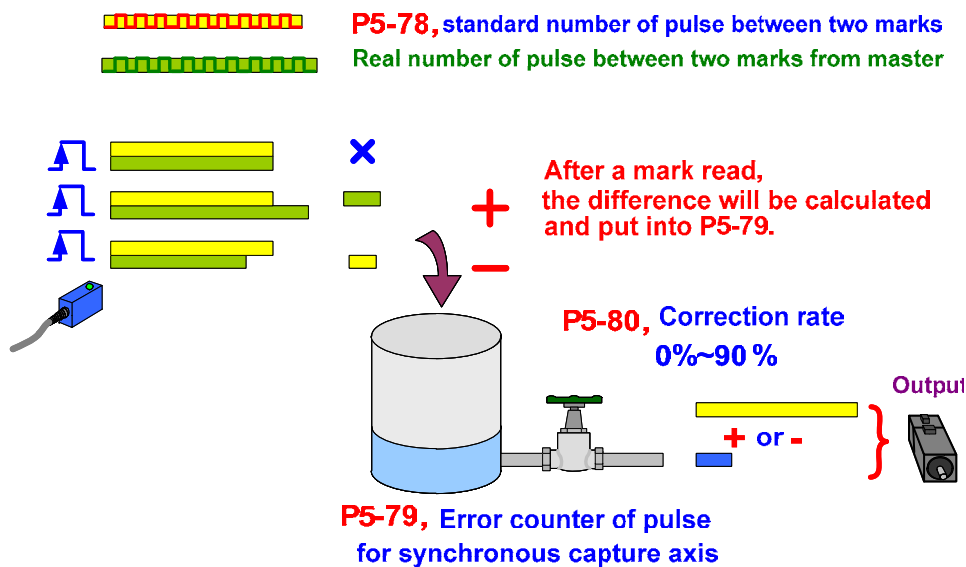

Figure 3.8.6 Operational Theorem of Synchronous Capture Axis
- The pulse number between two marks must be set in P5-78. The setting of P5-78 must be correct, or the system has no basis for comparison. Generally, P5-78 = P5-84. If P5-83 = 1, then the distance between two marks is the distance the cam curve travels for a cycle. See figure 3.8.6. In every cycle, the actual pulse number output by master axis between two